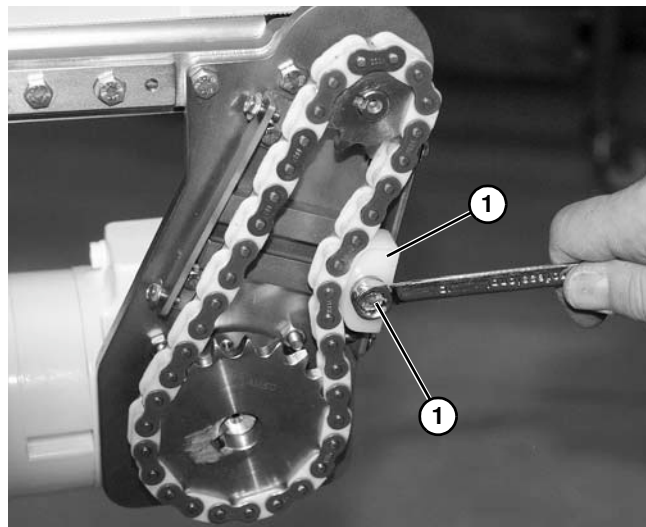

Figure 43
- Slide chain tensioner (**Figure 43, item 1**) to take up chain slack. Tighten chain tensioner screw (**Figure 43, item 2**).